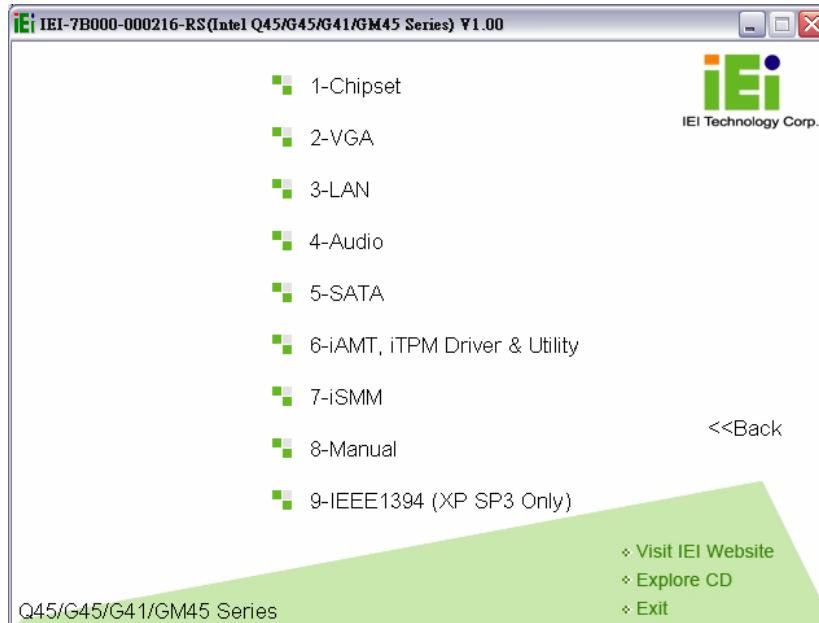

Figure 4-17: Available Drivers
Step 4: A new screen with a list of available drivers appears (**Figure 4-17**).